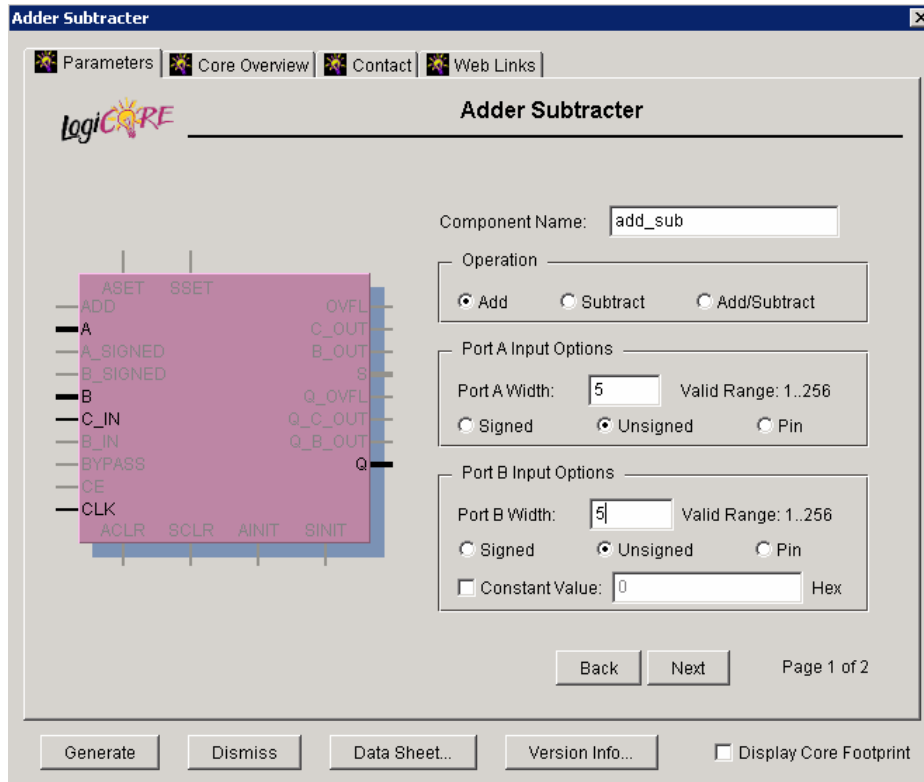
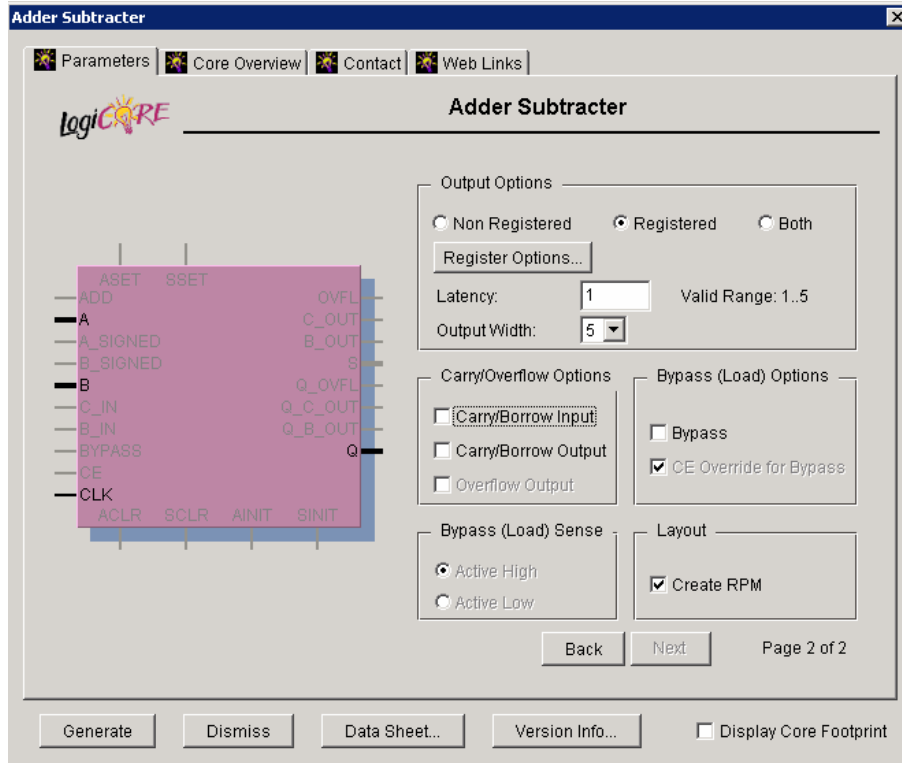

Figure 11; First window parameters for Adder Subtractor Core.
Figure 12; Second window parameters for Adder Subtractor Core.
4. Create an Adder core; Duplicate step 2 of this lab to create the core for an adder. Use the **Adder Subtractor** core that is found under **Math Functions / Adders & Subtractors** in the Coregen first window. The core needs the parameters shown in figure 11. Once you finished setting up these parameters, click on the **Next** button and fill out the parameters shown in figure 12. The important thing about the parameters that you just set up is that the inputs and output ports of the core will be 5 bits wide.